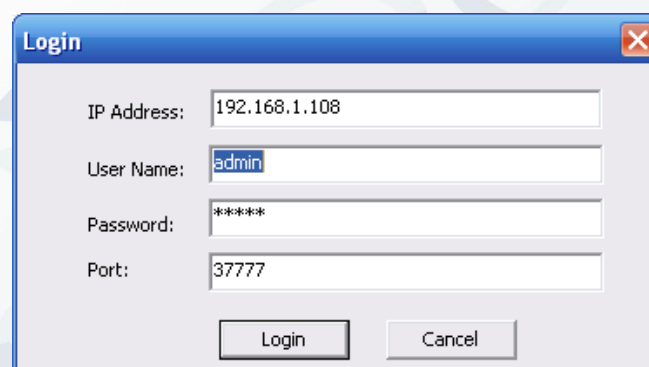

Figure 6-4
- In the configuration tool search interface (Figure 6-1), please select a device IP address and then double click it to open the login interface. Or you can select an IP address and then click the Login button to go to the login interface (see Figure 6-4).
- In Figure 6-4, you can view device IP address, user name, password and port. Please modify the corresponding information to login.